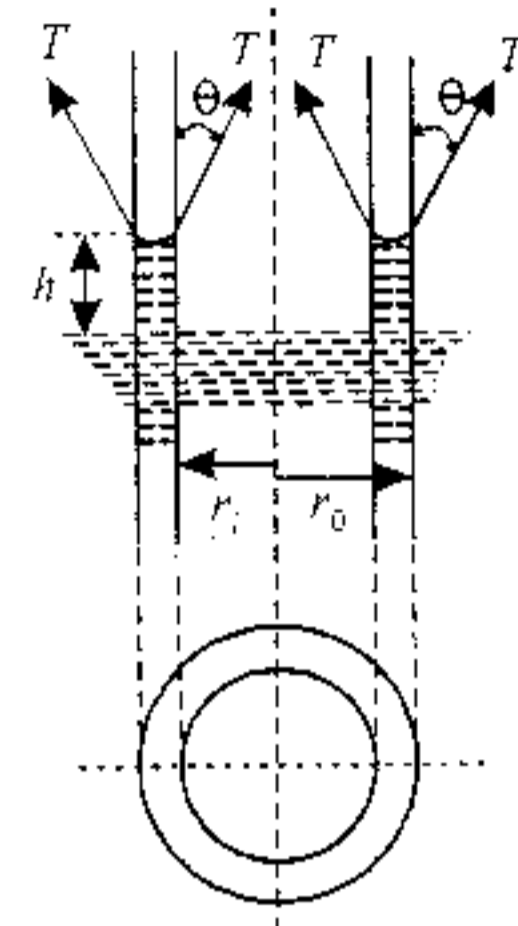

Fig. 1.28
**Solution.** Refer Fig. 1.28. If the angle of contact between the liquid and the curved tube surface is  $\theta$ , the water in the annulus will continue to rise until the vertical component of the surface tension force which acts over the wetted length (outer curve of the inner tube and inner curve of the outer tube) equals the height of the water column, or